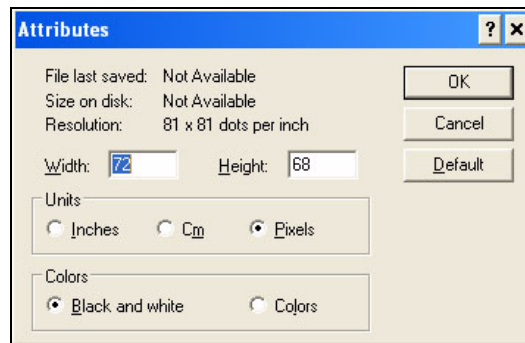

Figure 5-45: Image Attributes
- c. Select the colour format of the image as *Black and White*.(See Figure 5-45)